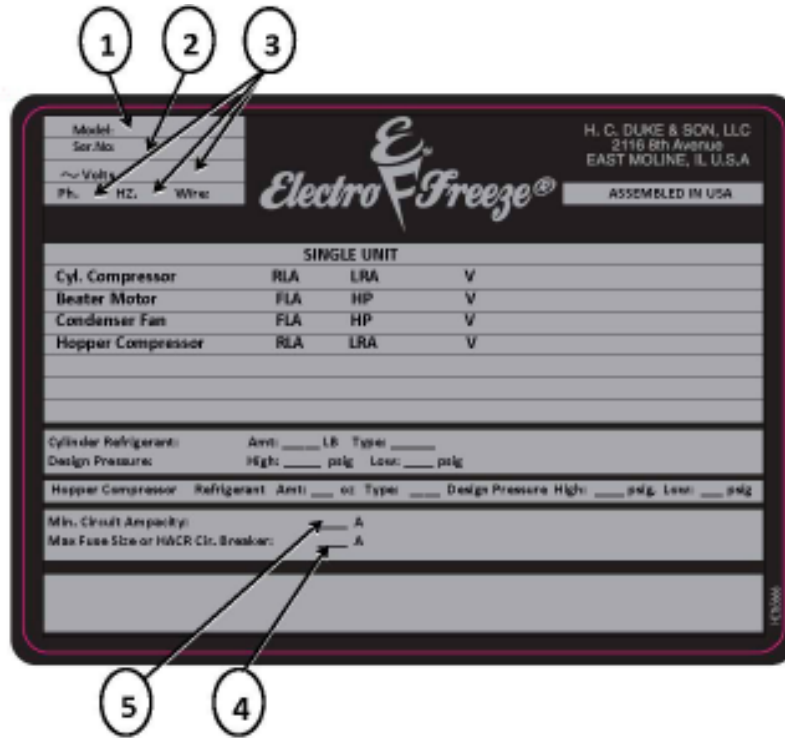

Figure 3-1
1. Always verify electrical specifications on the data plate (figure 3-1) of each freezer. Data plate specifications will always supersede the information in this manual.
Fill in the following information as soon as you receive your *Electro Freeze* SLX400 series or SLX500 freezer. (The item numbers—encircled, below—correspond to the callout numbers in figure 3-1.)